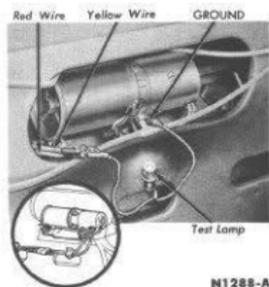

FIG. 117—Testing Switch to Motor Wiring
**Switch-to-Motor Wires.** Disconnect the yellow and the red switch-to-motor leads at the connector near the motor. Connect a 12-volt test lamp between the yellow wire and a ground (Fig. 117) and check by operating the top control switch to raise the top. Connect the test lamp between the red wire and a ground, and check by operating the switch to lower the top. If the test lamp does not light in either case, the wire from the connector to the switch is open or shorted.